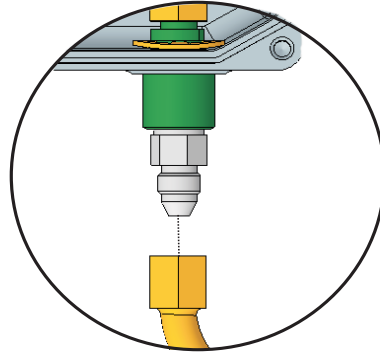

Figure 5-1. High-Pressure Nitrogen Tubing Location, Close Up
1. Disconnect the high-pressure nitrogen tubing from the XV Control System (see Figure 5-1).